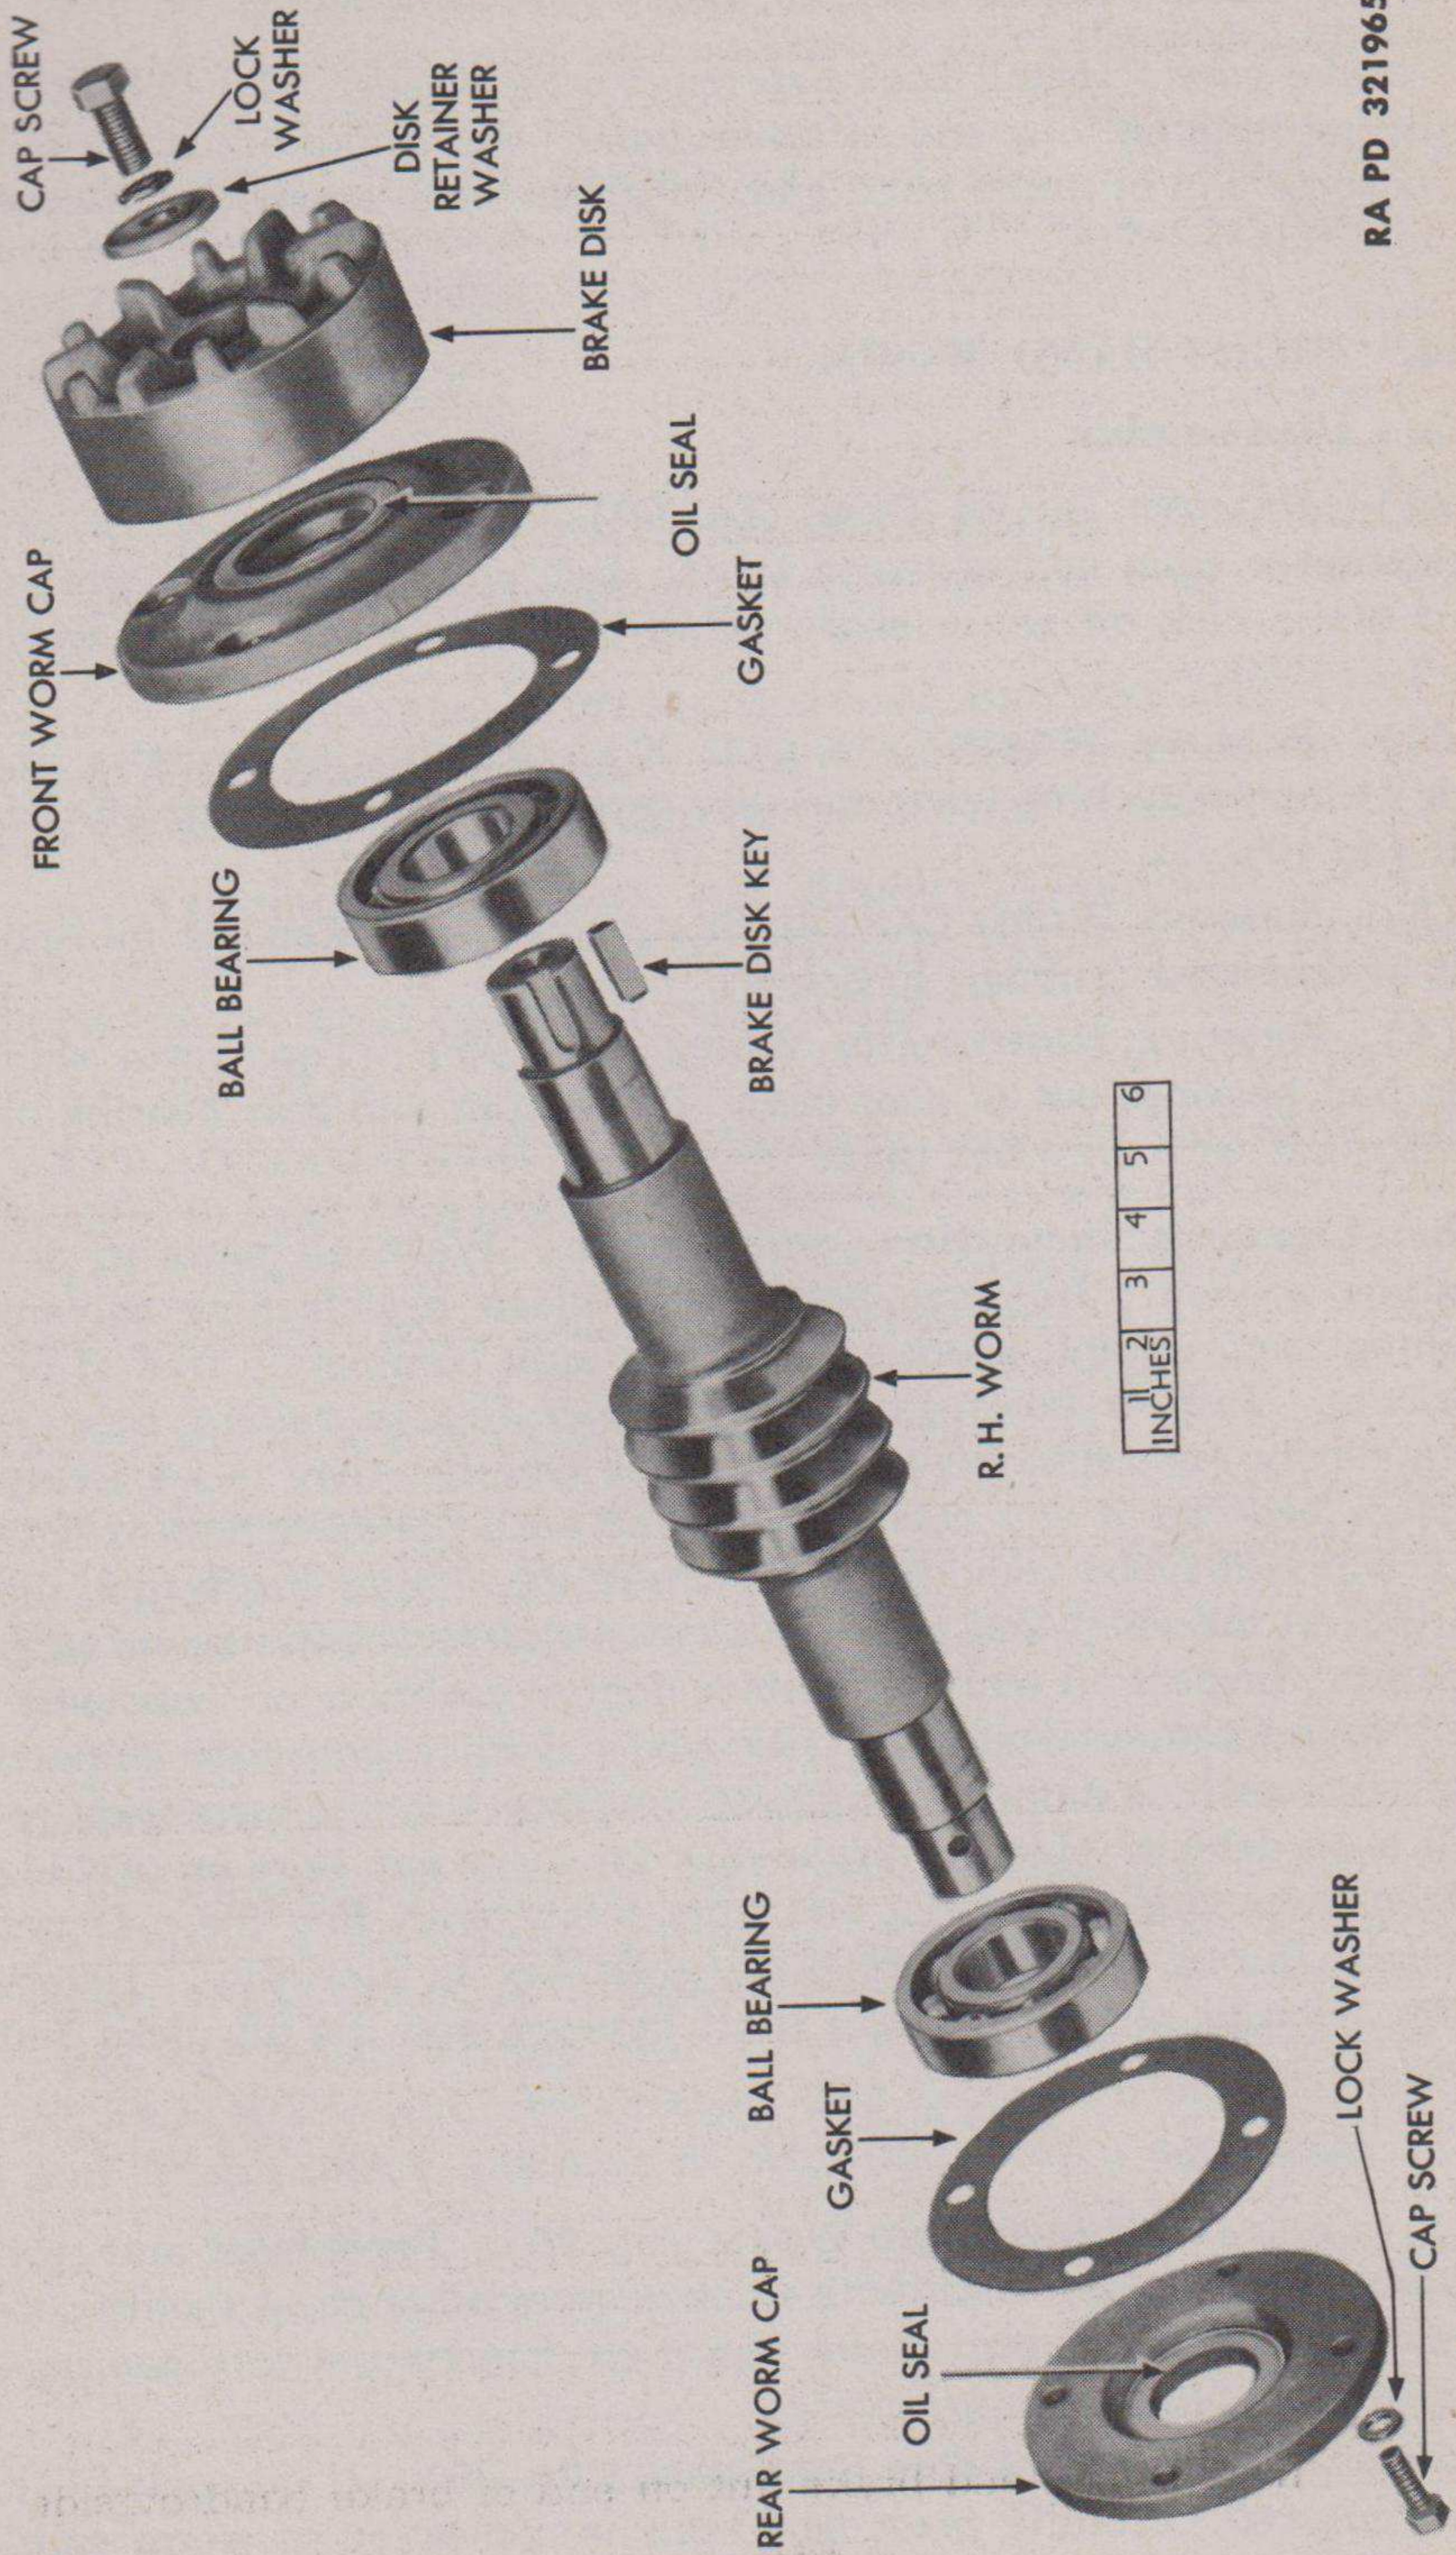

Figure 90 — Right-hand Worm Disassembled
(1) **REMOVE BRAKE DISK** (fig. 90). Remove cap screw and lock washer from end of worm shaft. Lift off disk retainer washer. Tap brake disk off worm shaft. Tap brake disk key out of worm shaft keyway.
(2) **REMOVE WORM CAPS** (fig. 90). Remove cap screws and lock washers attaching front and rear caps to gear case. Lift off caps and cap gaskets.
(3) **REMOVE WORM CAP OIL SEALS** (fig. 90). Remove oil seals only if damaged (subpar. b, below).
(4) **REMOVE RIGHT-HAND WORM** (fig. 90). Tap worm shaft with ball bearings out of gear case. Press front and rear bearing off worm shaft with an arbor press.
(1) **INSTALL RIGHT-HAND WORM** (fig. 90). Press front and rear ball bearings on worm shaft with thick edge of outer races facing outward toward ends of worm shaft. Tap right-hand worm with bearings installed into position in gear case.
(2) **INSTALL WORM CAP OIL SEALS** (fig. 90). If oil seals have been removed, carefully press new seals into position in worm caps.